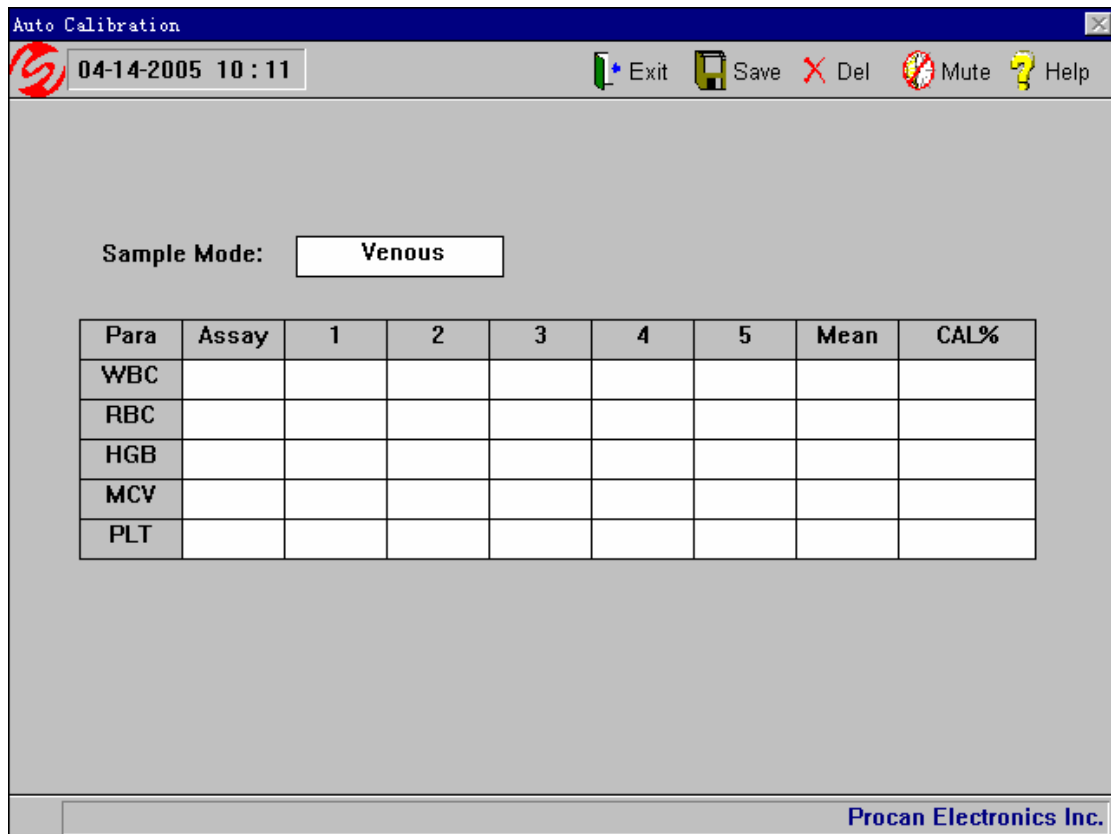

Figure 5-2
- a) In the blood cell analyzer window, press the right key of the mouse, select “**Auto Calibration**” in the menu. The instrument enters the auto calibration window, as shown in figure 5-2.